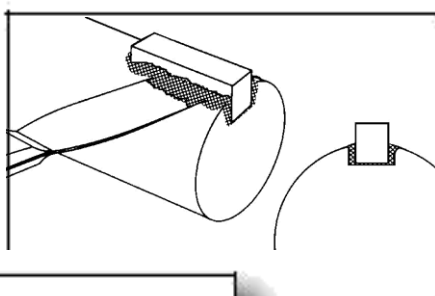

Figure 5
5. Scrape away excess material from the sides of the keyway (**Figure 5**).